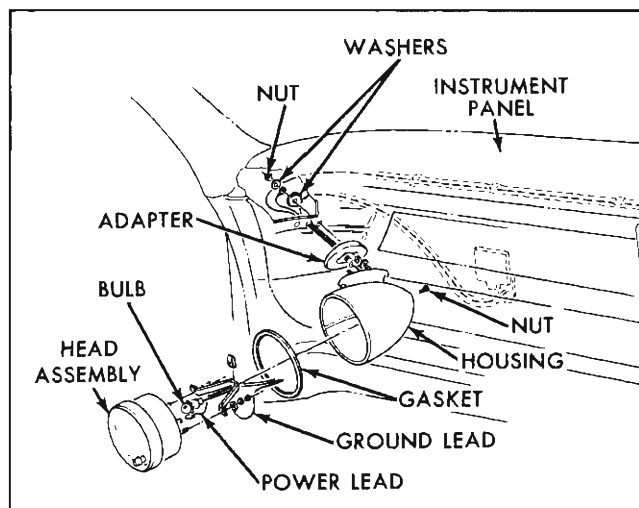

Fig. 12-33 Reference Illustration—Tachometer
**HEAD ASSEMBLY—REMOVE AND REPLACE (Fig. 12-33).**
**HOUSING—REMOVE AND REPLACE (Fig. 12-33).**